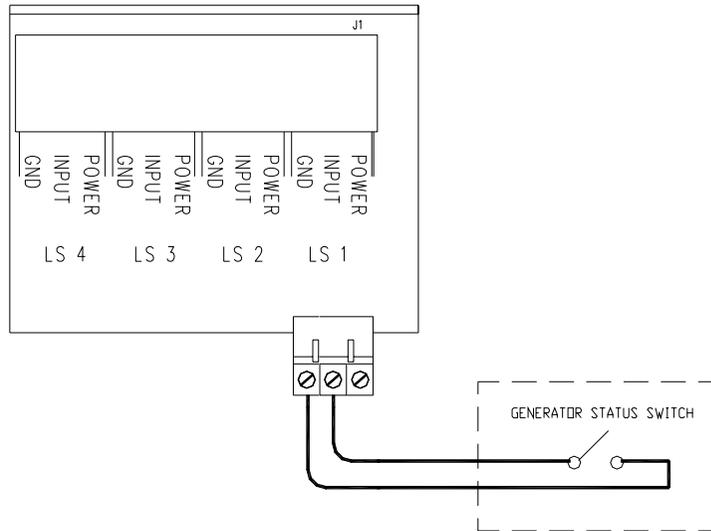

Figure 16: Generator Wiring
**This wiring is part of an intrinsically safe circuit! *Never* place this wiring in the same conduit or raceway with wiring for non-intrinsically safe devices. See *Figure 16*.**
See *Figure 16*. Wire to the input and ground terminals of one of the leak sensor channels. Do not make connections to the power terminal.
This wiring is part of an intrinsically safe circuit and must never be routed in the same conduit or raceway with non-intrinsically safe devices. See *Figure 16*.